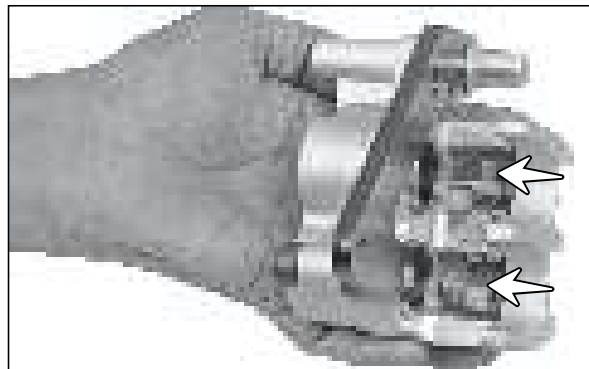

Fig. 6.25
- Remove the spring pad from the caliper housing. (Fig. 6.25)